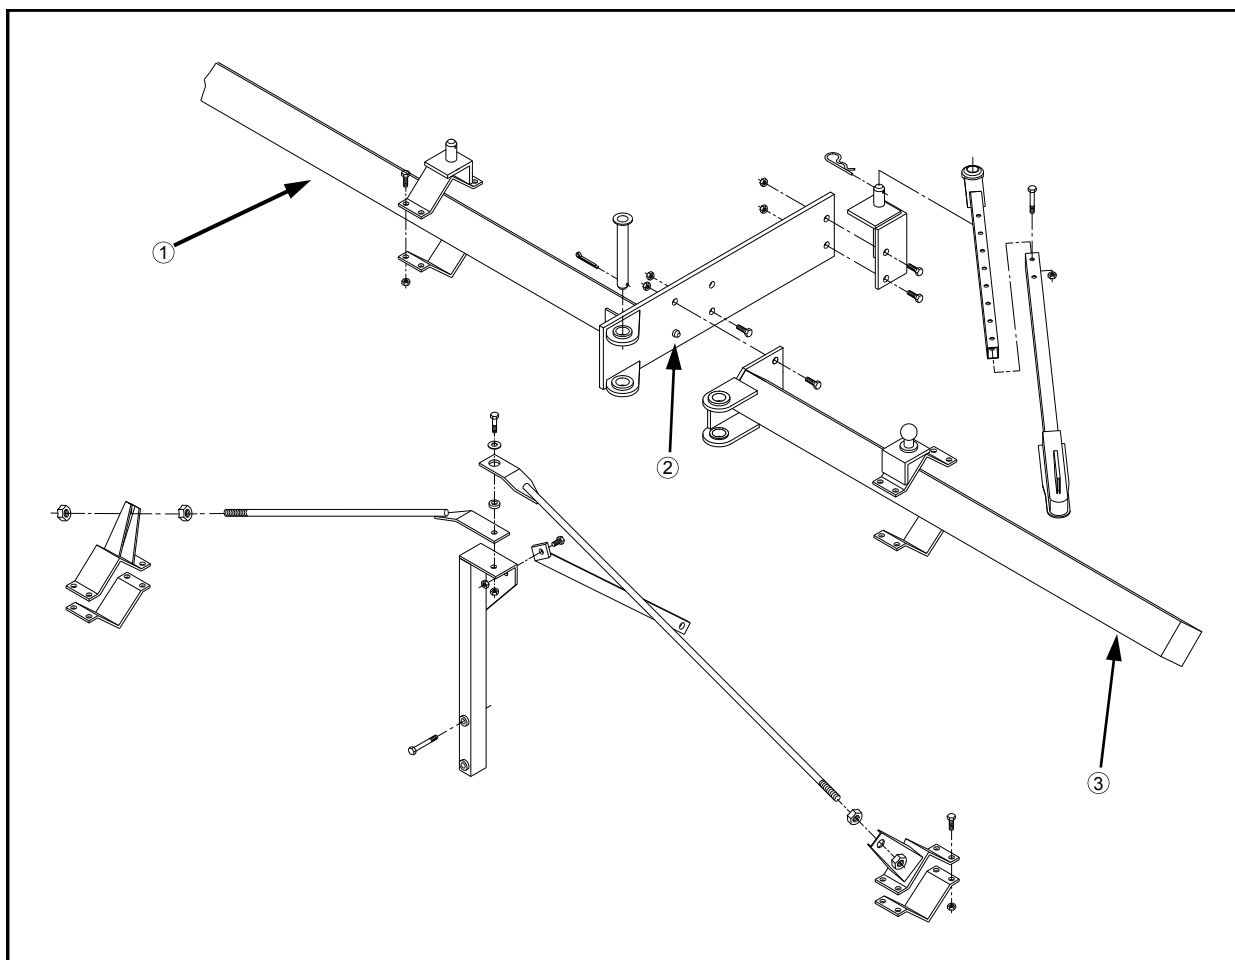

FIG 4.11
1. Attach the center tool bar (fig. 4.11, item 1) to front frame cross member with supplied hardware according to 204 & 204SP DETASSELER Parts Manual for correct hardware.
The guide pin that is welded to outrigger mount should be located toward the bottom (fig. 4.11, item 2).
2. Attach left and right outrigger (fig. 4.11, item 3) with supplied hardware. Refer to 204 & 204SP DETASSELER OPTION Parts Manual.